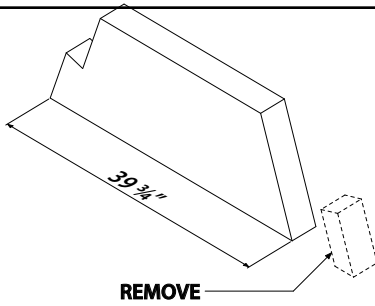

FIGURE 39
**Step 16:** Continue building the MAGNUM model 60 fireplace smoke dome by cutting two of the smoke dome large pieces, part 13, to a bottom length dimension of 39 3/4". The slope angle of the cut should match the slope angle of the end being cut. (Figure 39)